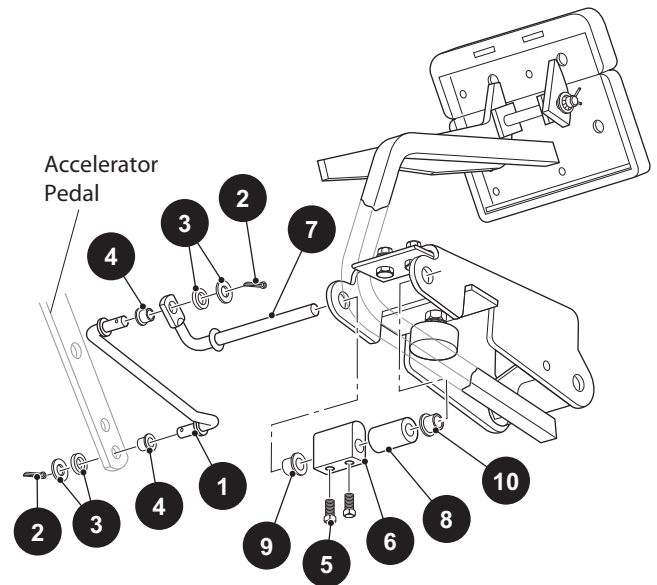

Figure 28 Parking Brake Release Linkage and Kick-Off Cam Removal and Installation.
Remove the cotter pin (2), washers (3) and bushings (4) from linkage rod (1). Remove the linkage rod (Figure 28).
Disconnect the parking brake release linkage as described above. Loosen the two setscrews (5) from the cam (6) and remove the cam pivot (7), cam (6) and spacer (8) (Figure 28).